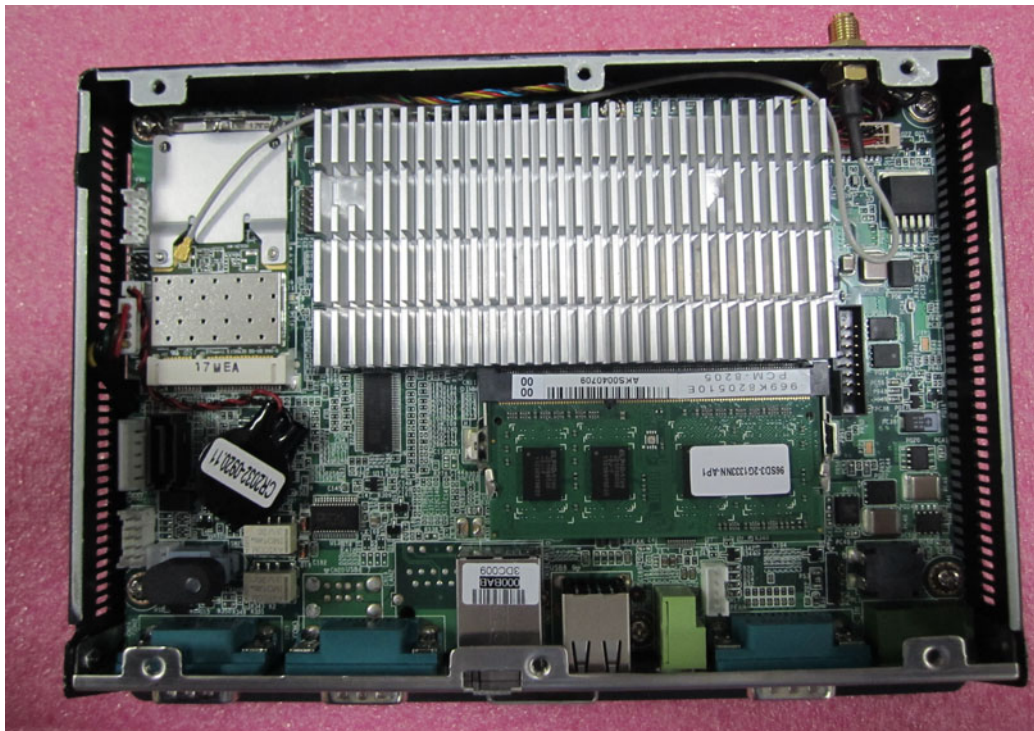

Figure 4.6 Placing the memory card on the board end
1. Placing the memory card on the board end corresponding position. (See Figure 4.6)